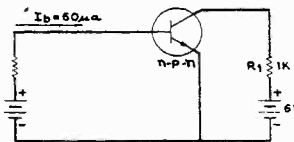

Fig. 2. Very basic transistor amplifier.
*Example 1.* Consider the circuit in Fig. 2. Here the base current  $I_b$  is specified as  $60 \mu a$ , the supply voltage  $E$  is 6 v, and the load resistance  $R_1$  is 1,000 ohms. Let's solve this circuit graphically.